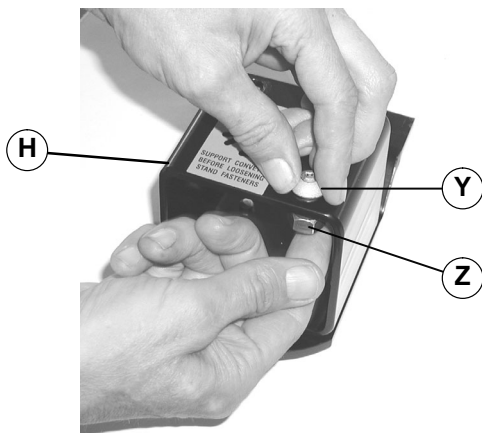

Figure 9
- Install two button head screws (Y of Figure 9) and hex nuts (Z) on leg support (H). Do not tighten screws.